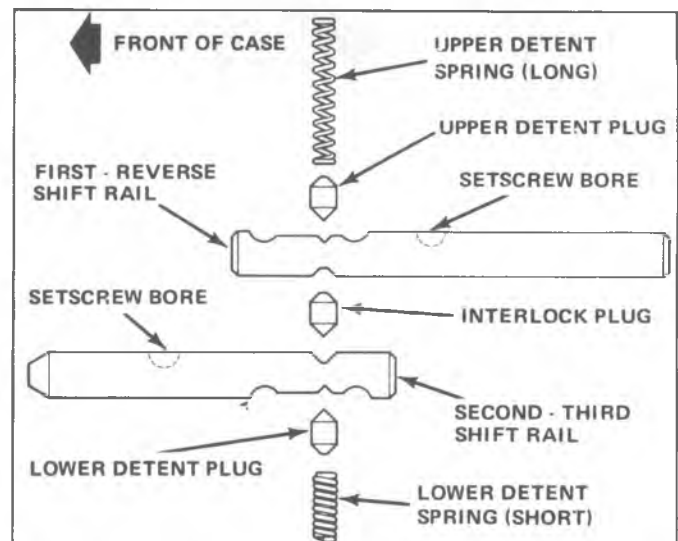

Fig. 21R--Installation Sequence - Detent Plugs and Springs
10. Lower shorter detent spring in detent bore in case (fig. 21R). Allow spring to drop into place at bottom of Second-Third shift rail bore. Insert lower detent plug in detent bore on top of spring.